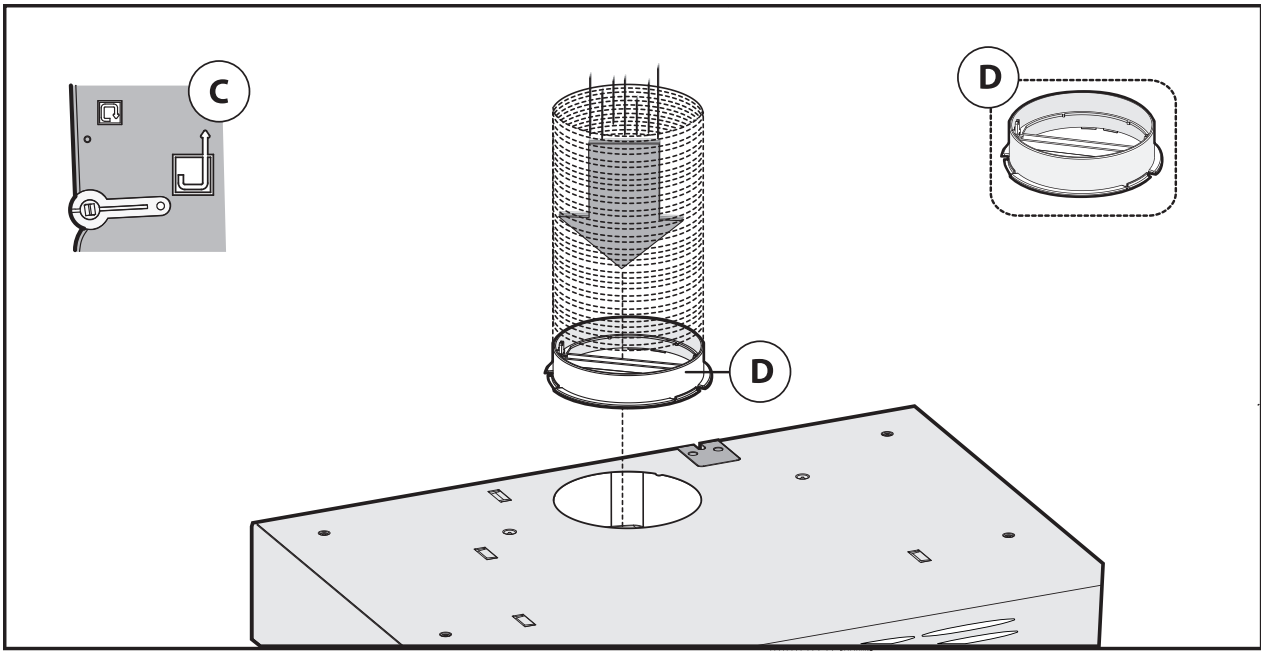

Fig.3
- If the hood is an **extractor** model, the lever **C** must be positioned as indicated in Fig. 3.
The appliance expels the fumes through an outside wall or a duct. It is necessary to buy a telescopic pipe in accordance with the standards in use (inflammable) and connect it to flange **D** (Fig 1A). The flange **D** is supplied with the product and should be fixed above the air outlet hole of the hood as indicated in Fig. 3.